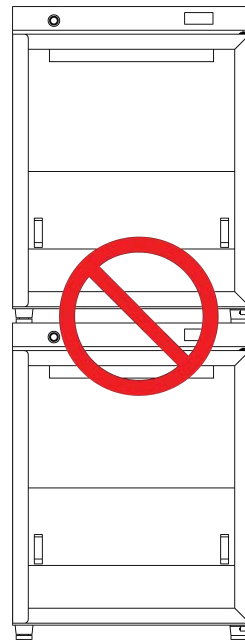

Fig 2.
- Under no circumstances should any refrigerators be stacked on top of each other (**Fig 2**).